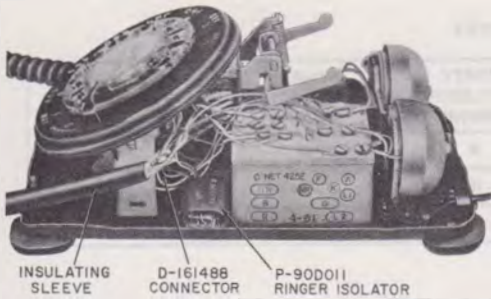

Fig. 2—Ringer Isolator in 500-Type Telephone Set
- Add Fig. 2 and 3
**Lines equipped with ringer isolators cannot be tested for continuity by conventional testdesk procedures. This device should be installed in such a manner as not to interfere with electrical or mechanical operation of the telephone set (Fig. 2 and 3).**